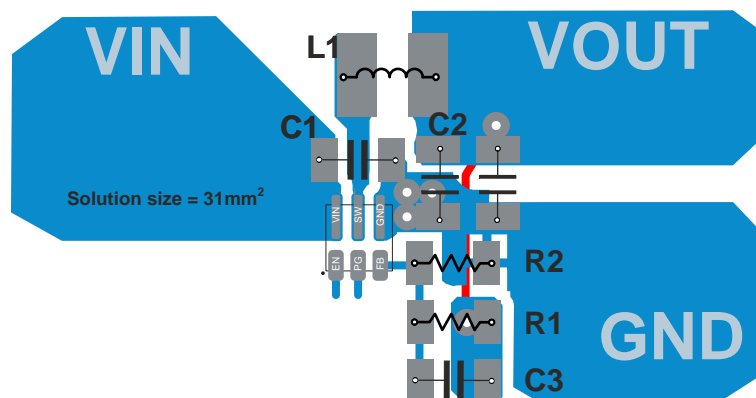

Figure 36. PCB Layout Recommendation
The printed-circuit-board (PCB) layout is an important step to maintain the high performance of the device. See Figure 36 for the recommended PCB layout.
- Refer to Figure 36 for an example of component placement, routing and thermal design.